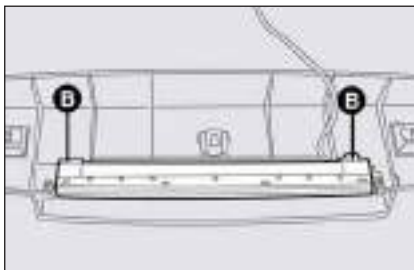

fig. 34
- refit the bulb holder making sure catches **B**-fig. 34 click into place.
- press catches **B**-fig. 34 and remove the bulb holder;